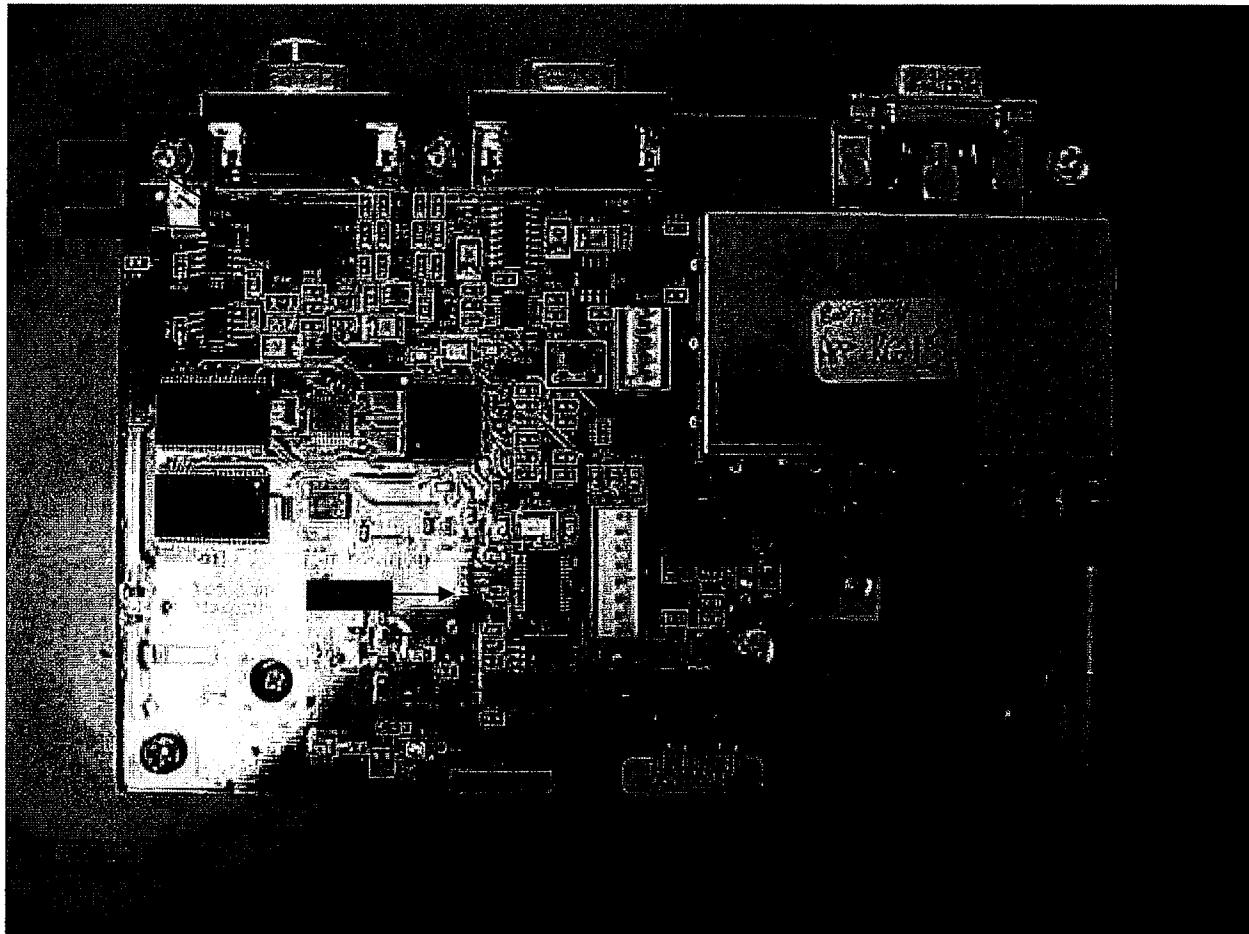

Figure 9
9.4.8.3 Verify the following voltage measurement on the reader board. Negative reference for DMM stated first. See figure 9 for locations of Test Points.